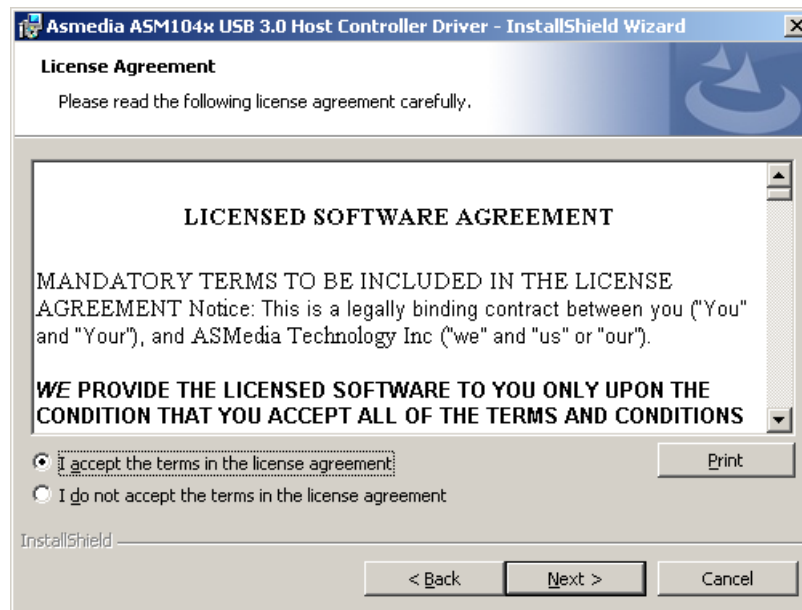

Figure 8-31: USB 3.0 Driver License Agreement
Step 6: The **License Agreement** shown in **Figure 8-31** appears.